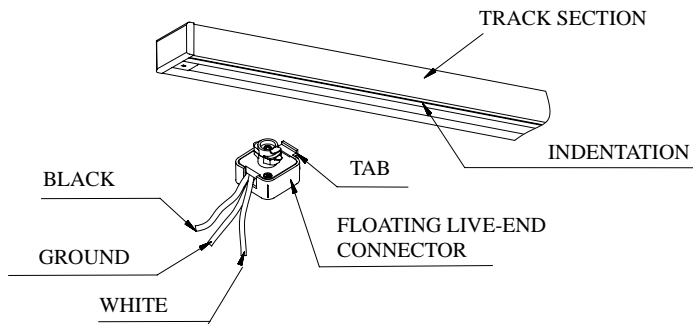

FIG. 2
1. The track section and floating live-end connector must be assembled so that polarity between conductors is maintained. **NOTE:** The floating live-end connector has a tab on one side and the track has an indentation which runs the length of the track channel (Refer to Figure2.). Align the floating live-end connector tab with the track indentation and insert the floating live-end connector into the track channel so that the base of connector fits flush against the track twist connector clockwise 1/4 (one quarter) turn so that the connector fits snugly against the track.